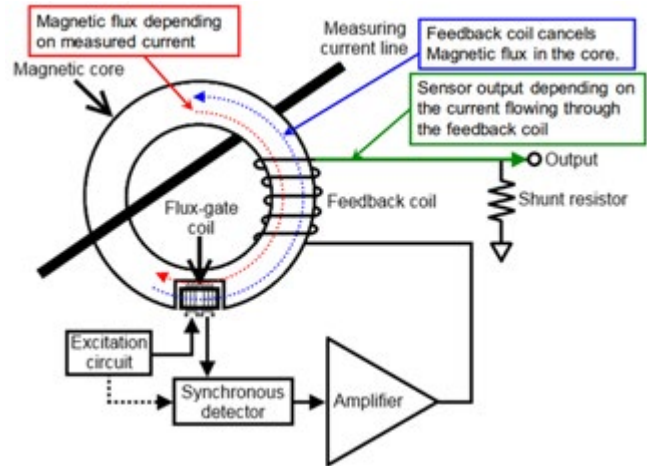

Figure 3: Zero-flux method (flux-gate type)
In the zero-flux method, which relies on a negative feedback circuit that includes a magnetic circuit such as those shown in Figures 3 and 4, a current is made to flow in a feedback coil so as to cancel the magnetic flux produced in the core by the current under measure-
Hioki's high-precision current sensors use the zero-flux method, which combines the flux-gate method and the current transformer (CT) method shown in Figure 3. The flux-gate method allows detection based on a DC current. Because this method does not require use of any semiconductors, it delivers the advantages of low offset voltage, high temperature stability, and excellent long-term stability. Hioki provides current sensors with 0.02% rdg. accuracy and a band of 3.5 MHz, making them some of the best-performing instruments of their kind in the world. In addition, the company takes advantage of the flux-gate method's high temperature stability to deliver products with an operating temperature range of -40°C to 85°C.